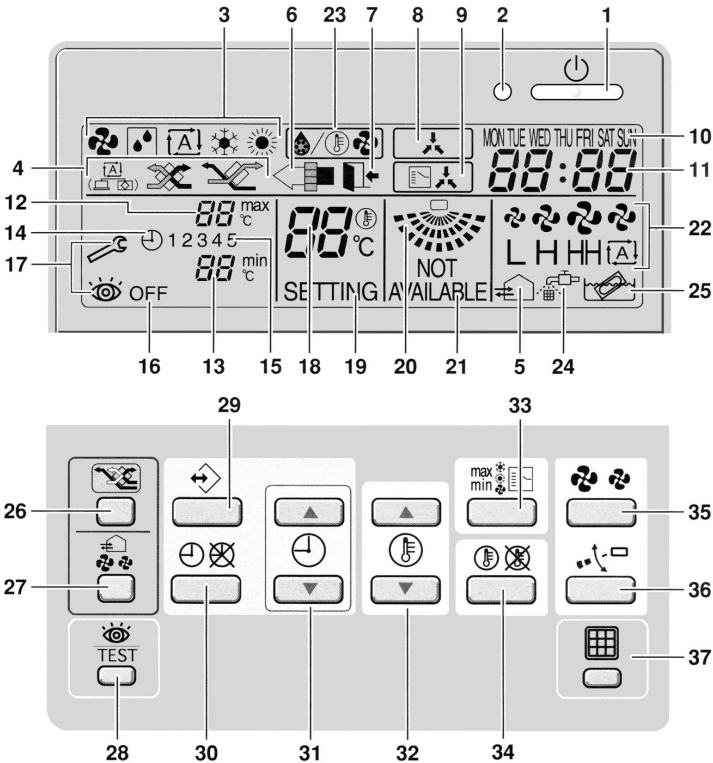

Figure 1
15.1.4 Name and Function of Switches and Icons (Refer to figure 1)